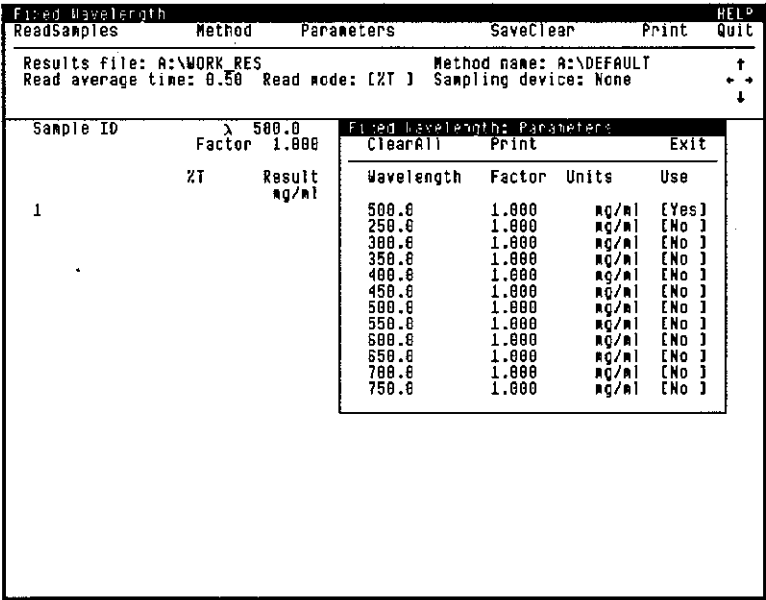

Figure 12-11. Fixed Wavelength Window with Parameters Window
- 5. Click on <Parameters>, located in the menu bar at the top, center of the Fixed Wavelength Window. The Parameters window, Figure 12-11, is displayed.